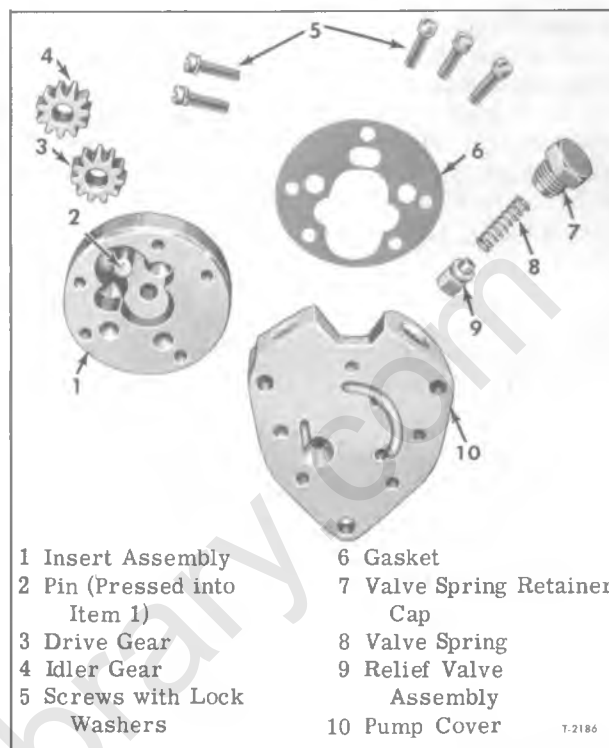

Figure 7—Fuel Supply Pump Components
2. Remove, clean, and inspect the supply pump relief valve assembly and spring (9 and 8, fig. 7). Valve and spring are available for service replacement. Install relief valve (9), valve spring (8), and retainer cap (7).